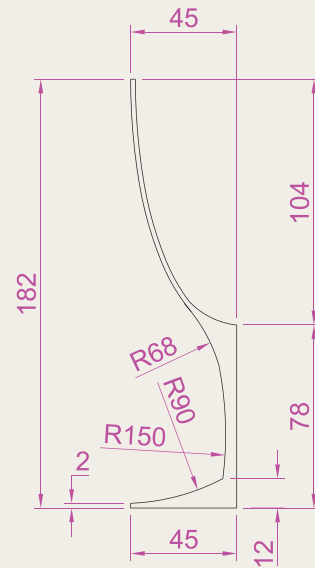
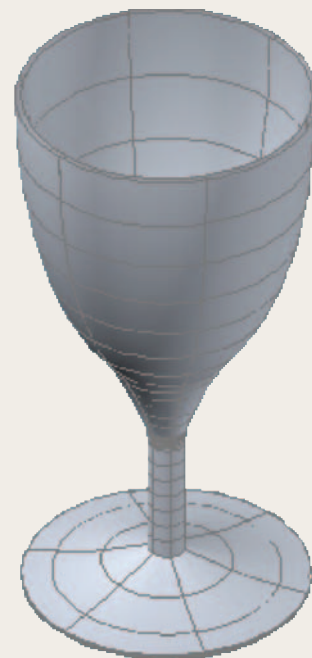

Fig. 12.49 Exercise 4 – outline drawing
Fig. 12.50 Exercise 4
4. Construct the 3D model of a wine glass as shown in Fig. 12.50, working to the dimensions given in the outline drawing of Fig. 12.49. You will need to construct the outline and change it into a region before being able to change the outline into a solid of revolution using the **Revolve** tool from the **Home/3D Modeling** panel. This is because the semi-elliptical part of the outline has been constructed using the **Ellipse** tool, resulting in part of the outline being a spline, which cannot be acted upon by **Polyline Edit** to form a closed pline.